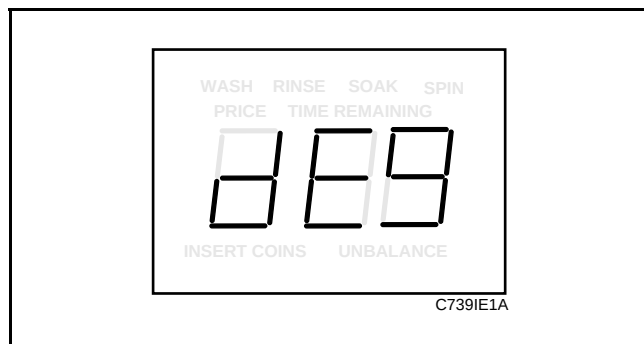

Figure 65
3. Press the DELICATES (+) pad or the COLD (-) pad to scroll through the programmable options until “dEg” appears in the VFD. See **Figure 65**.